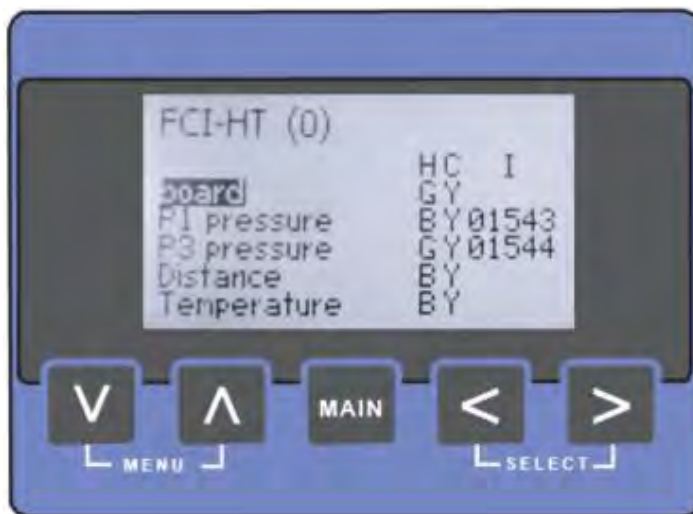

FIGURE 4-29 The function list screen (commissioning)
- The [\[function list\]](#) screen (see FIGURE 4-29) displays all configurable entities of a function. The actual entity value is also visible. You can *navigate through the board list* by using the up or down button. A function can be selected by simultaneously pressing the left + right button. You can return to the [\[board list\]](#) screen by pressing the left button.